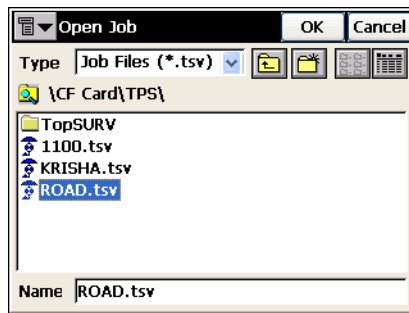

Figure 1-4. Browse Job
- **Browse:** displays the screen to browse directories for selecting a job to open (Figure 1-4 on page 1-3). Highlight the file and press **OK**.